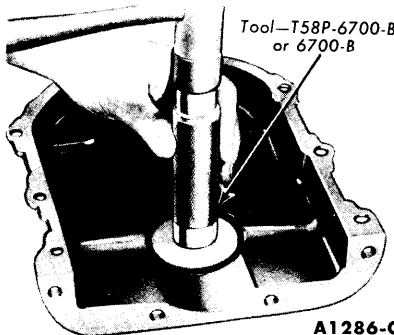

FIG. 32—Oil Seal Installation
2. Coat a new seal with grease; then install the seal (Fig. 32). Drive the seal in until it is fully seated in the recess. Check the seal after installation to be sure the spring is properly positioned in the seal.